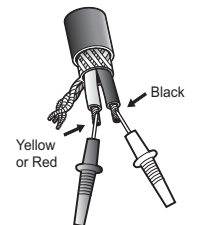

Figure 2. Attachment points for ohm readings
Three (3) ohm readings should be taken for each WarmlyYours TempZone™ Floor Heating Cable at each stage of the installation and recorded in the table on the warranty card in section 10. Refer to Figure 2 for instructions about how to attach the ohmmeter or PowerMan™ to take each type of reading.